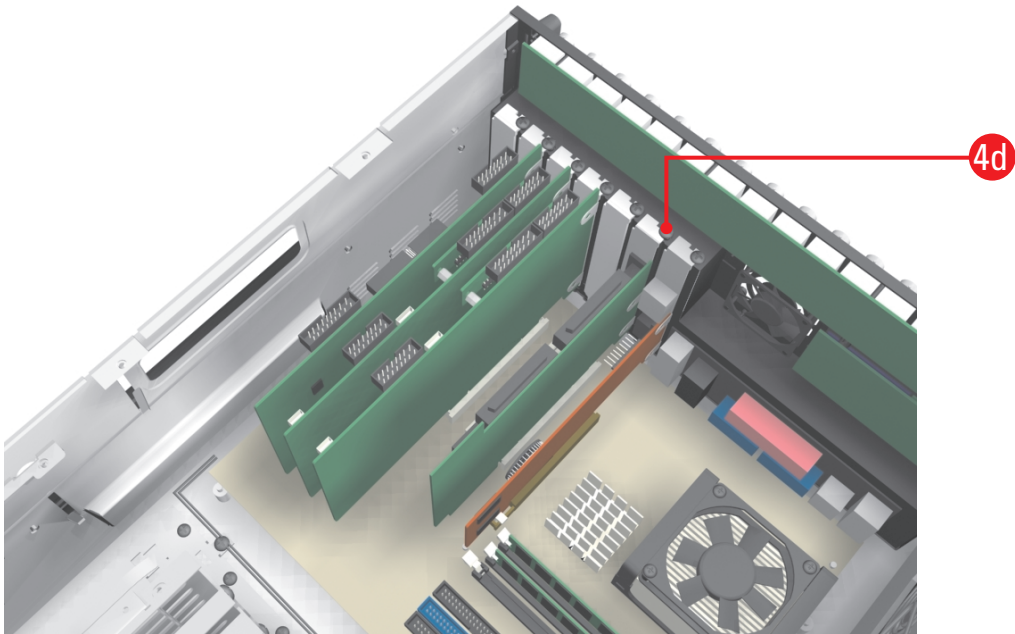

Figure 12. Securing the DX8000-ISCI SCSI Card
- d. Using the screw you removed in step 2a, secure the DX8000-ISCI card to the chassis. Refer to Figure 12.